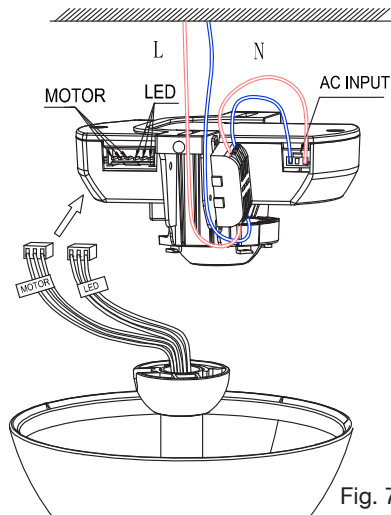

Fig. 7.1.
See Fig 7.1
- Slide receiver into position in the hanging bracket making sure the AC input connector on the receiver is aligned with the AC port on the receiver. Refer Fig 7.1. on page 7.